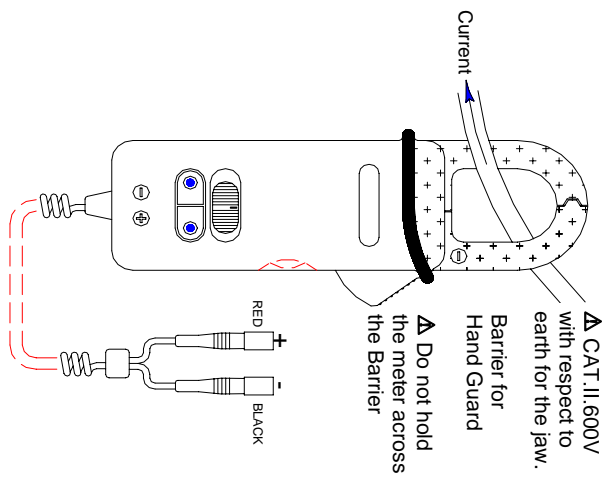

Fig. 2
4. For DC measurement , output is positive in the red plug when the current flows from the lower side to the upper side of the transducer as shown in Fig. 2